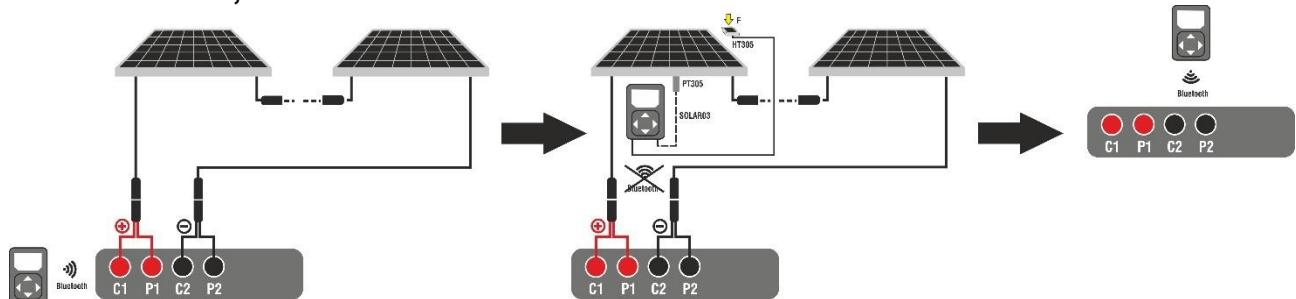
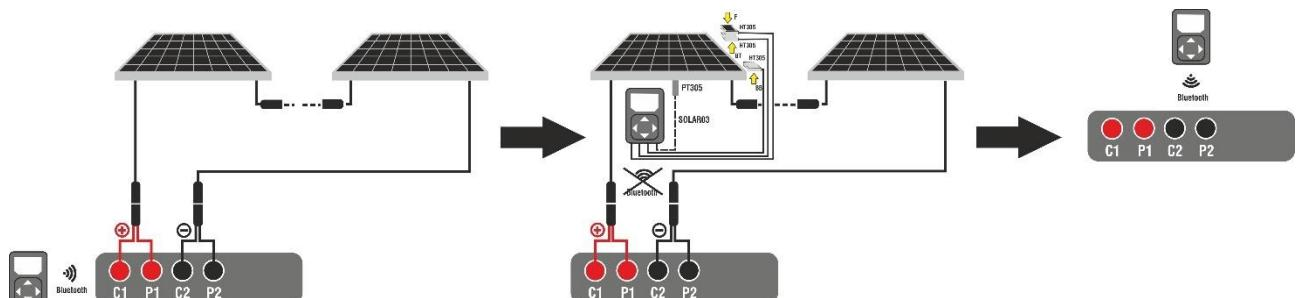

Fig. 47: Connection with SOLAR03 in synchronous recording on Monofacial modules
Fig. 48: Connection with SOLAR03 in synchronous recording on Bifacial modules
2. Connect the instrument to the module/string being tested as shown in Fig. 47 (Monofacial modules) or Fig. 48 (Bifacial modules). In detail, connect the negative pole output of the module/string to terminals **P2, C2** and the positive pole output of the module/string to terminals **P1, C1**
3. Move the SOLAR03 remote unit close to the instrument as shown in Fig. 47 or Fig. 48 – left side part
8. **Move the remote unit close to the modules** and connect the irradiance and temperature probes (if necessary) as shown in Fig. 47 or Fig. 48 – middle side part. In particular:
18. **At the end of the test session**, disconnect the SOLAR03 remote unit and move it back close to the instrument (see Fig. 47 or Fig. 48 – right side part)